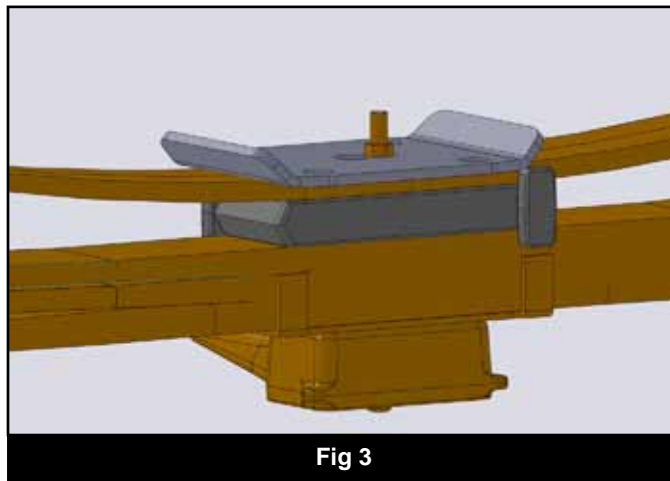

Fig 3
11. Raise the axle to engage the block spring alignment pins. Be certain the leaf center pin aligns with the REAR hole in the new lift block. Position the new u-bolt plate on the top of the spring over the center pin nut. Position the plate so the bolt pattern is shifted forward on the spring. (Fig 3) Fasten the entire assembly with the provided u-bolts, and flanged nuts. Snug but do not torque the u-bolts at this time.